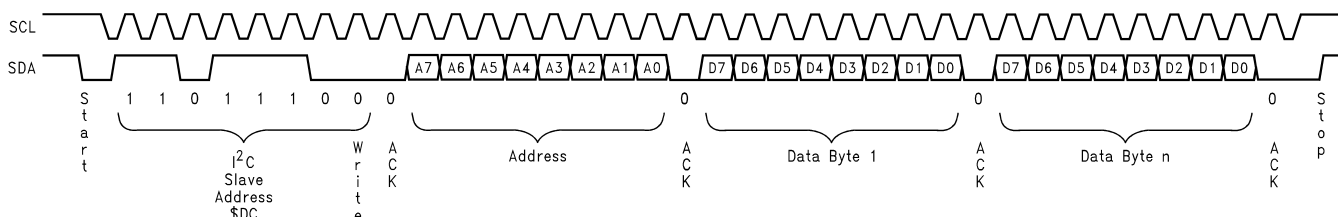
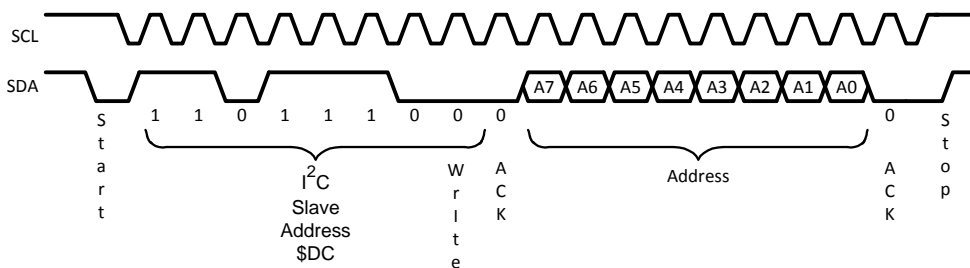
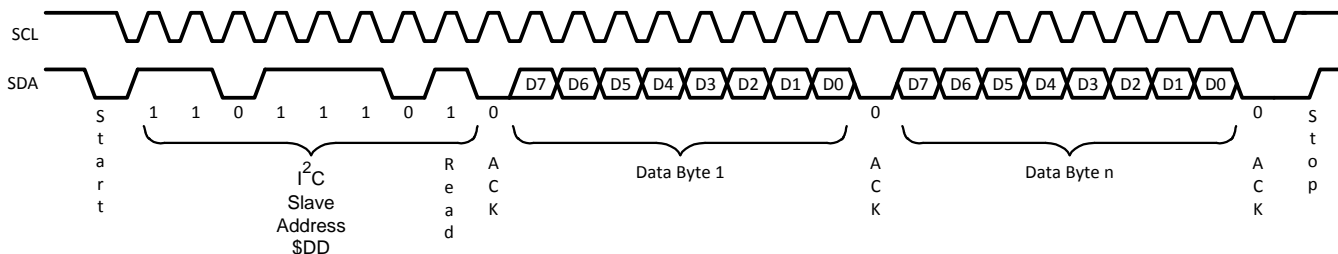

Figure 12. LMH1982 Write Sequence
Figure 13. LMH1982 Read Sequence – Address Access Transfer
Figure 14. LMH1982 Read Sequence – Data Read Transfer
The protocol of the I2C interface begins with the start pulse followed by a byte comprised of a seven-bit slave device address and a read/write bit as the LSB. Therefore, the address of the LMH1982 for write sequences is DCh (1101 1100) and the address for read sequences is DDh (1101 1101). Figure 12, Figure 13, and Figure 14 show a write and read sequence across the I2C interface.
The write sequence begins with a start condition, which consists of the master pulling SDA low while SCL is held high. The slave device address is sent next. The address byte is made up of an address of seven bits (7:1) and the read/write bit (0). Bit 0 is low to indicate a write operation. Each byte that is sent is followed by an acknowledge (ACK) bit. When SCL is high the master will release the SDA line. The slave must pull SDA low to acknowledge. The address of the register to be written to is sent next. Following the register address and the ACK bit, the data byte for the register is sent. When more than one data byte is sent, it is automatically incremented into the next address location. See Figure 12. Note that each data byte is followed by an ACK bit.
The address access transfer shown in Figure 13 consists of a start pulse, the slave device address including the read/write bit (a zero, indicating a write), then its ACK bit. The next byte is the address to be accessed, followed by the ACK bit and the stop bit to indicate the end of the address access transfer.
The subsequent read data transfer shown in Figure 14 consists of a start pulse, the slave device address including the read/write bit (a one, indicating a read) and the ACK bit. The next byte is the data read from the initial access address. Subsequent read data bytes will correspond to the next increment address locations. Each data byte is separated from the other data bytes by an ACK bit.